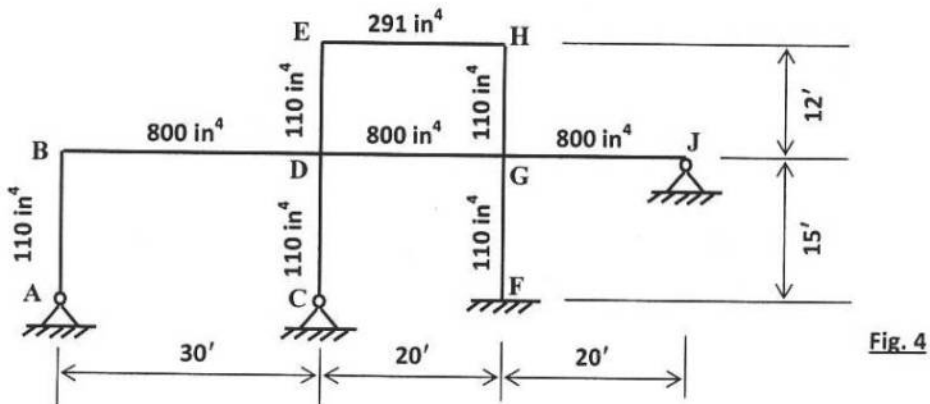

Fig. 4
7. Determine the effective length coefficients for the columns of the frame shown in Fig. 4. The moments of inertia in in^4 for the columns and beams are shown in the figure. Annexure-5 provides necessary nomographs. 8 1/3